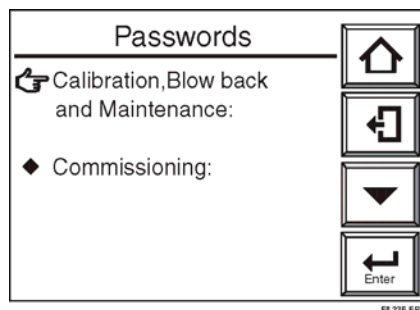

Figure 8-24 Passwords Display
3. Select “Others” and then “Passwords”. The display screen should appear as shown in Figure 8-24.